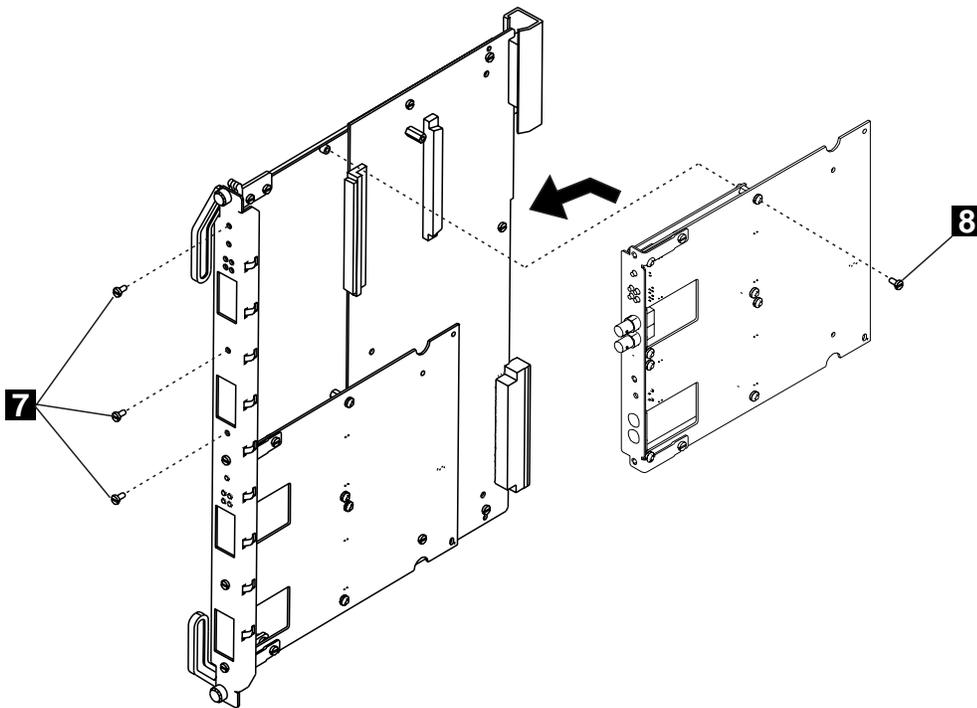

Figure 21. Reattaching the Motherboard
- **8** Reattach the motherboard to the module using the four screws (**7** and **8** in Figure 21) that originally held the motherboard.